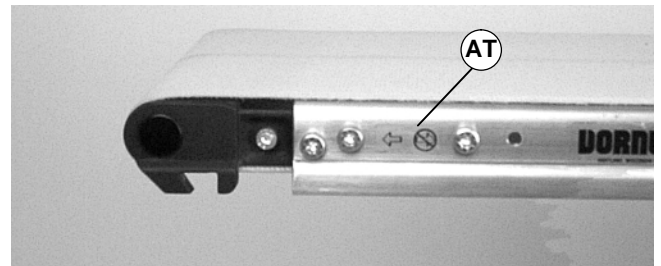
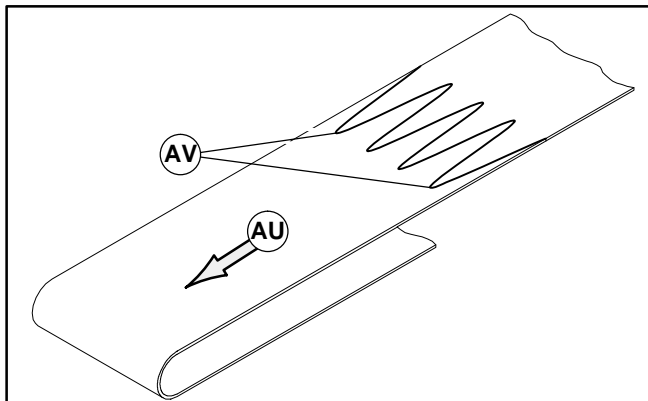

Figure 30
Figure 32
IMPORTANT: On a center drive conveyor, belt travel direction is identified by an arrow decal on the side of the conveyor (AT of Figures 30 & 31).
1. Orient the conveyor belt so that the splice leading fingers (AV of Figure 32) point in the direction of belt travel (AU) as identified by the label (AT of Figure 30).